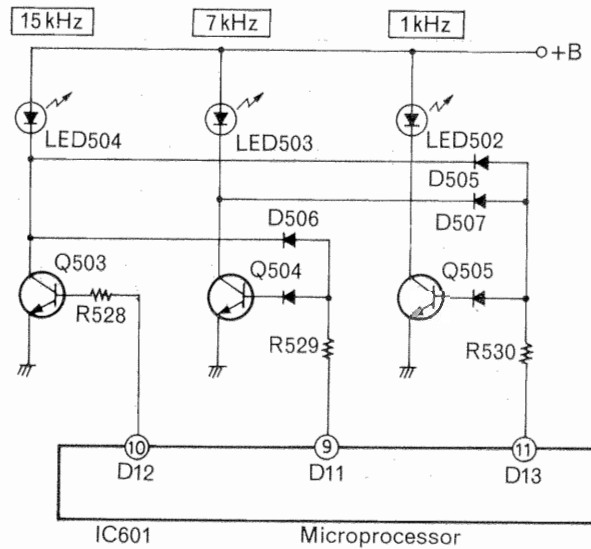

Fig. 14
Progression for testing Items (1) - (13) shown in Table 1 is indicated externally by the test progress indicators (1 kHz, 7 kHz, 15 kHz). A 3-bit signal is obtained from the microprocessor, as shown in Table 5, to control the test progress indicators, shown in Fig. 14.